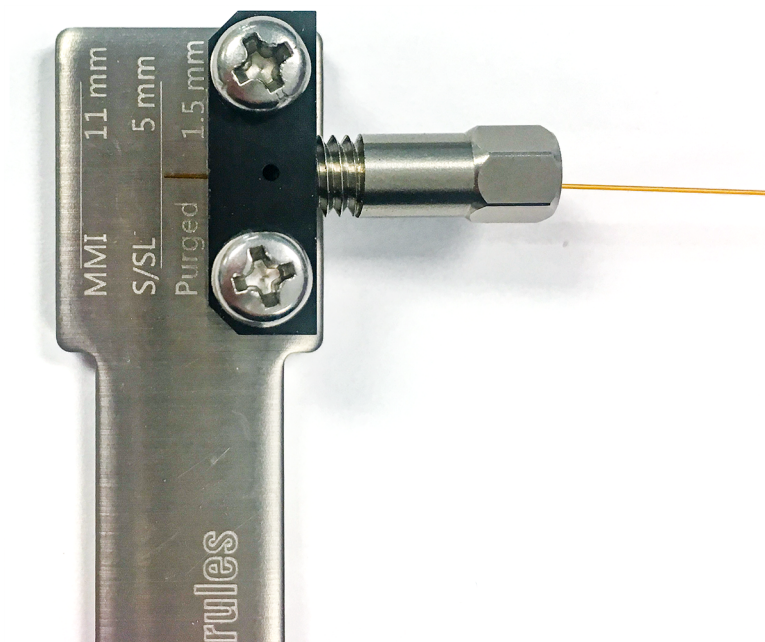

Figure 17. Align column (split/splitless shown)
5. Adjust the column position in the tool until the column end aligns with the correct dimension for the inlet. See Figure 17.